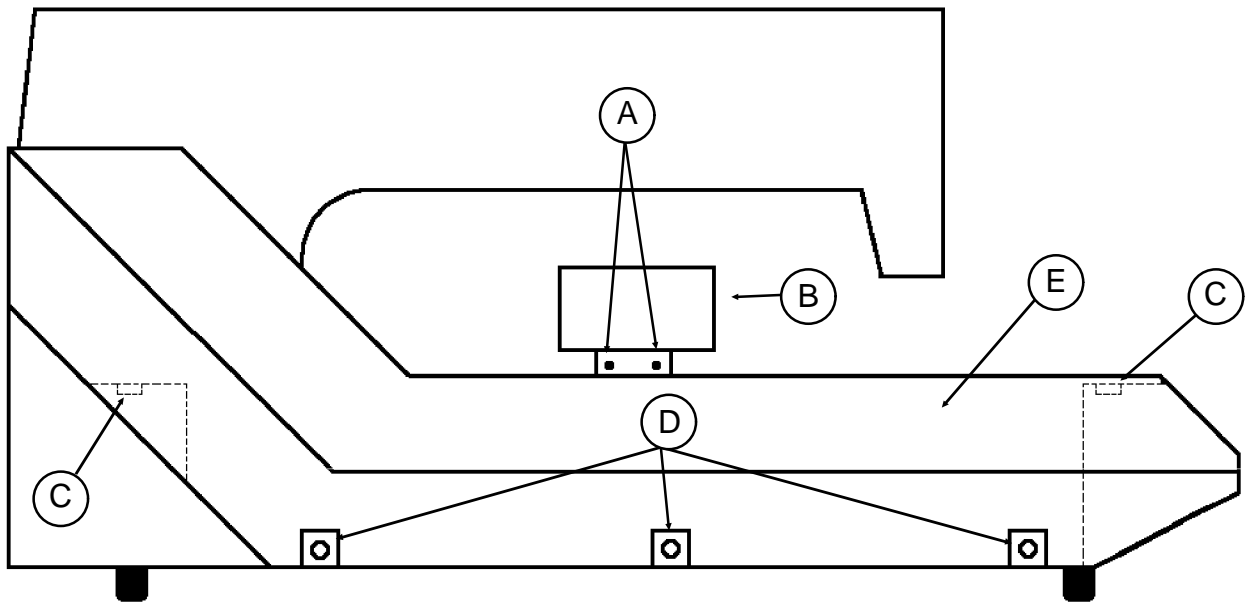

Figure 1
2. Loosen the two Retaining Screws (Figure 1-A) holding the X Motor Cover (Figure 1-B) in place, and remove the X Motor Cover.
3. Loosen the front and rear End Cap Locking Screws (Figure 1-C).
4. Remove the three End Cap Retaining Screws (Figure 1-D) and remove the End Cap (Figure 1-E).